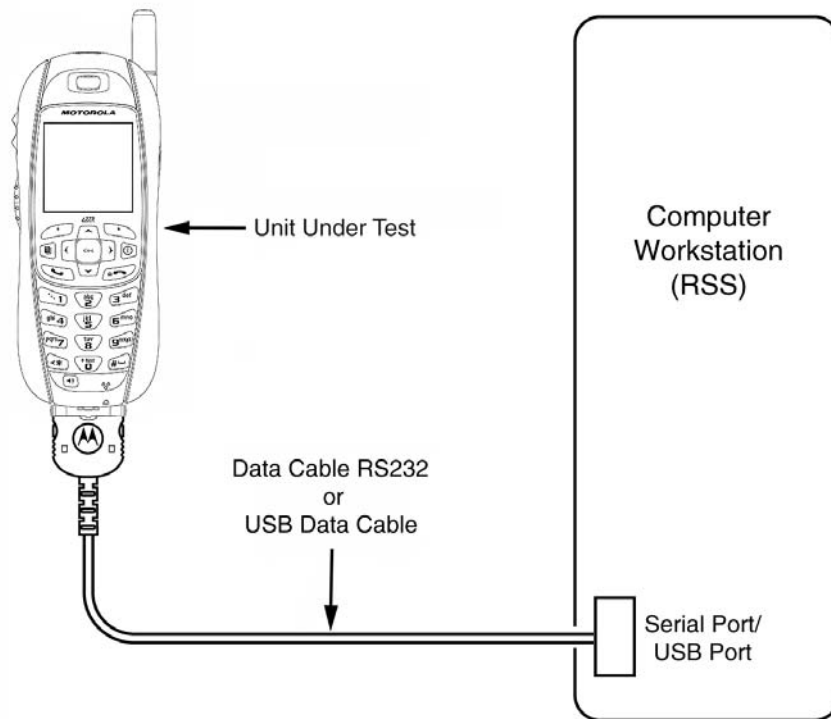

Figure 6-1. Data Cable Programming Setup
To prepare the unit for both codeplug and subscriber code programming using the data cable (Figure 6-1):
1. Set up your test equipment configuration (see Figure 6-1.).